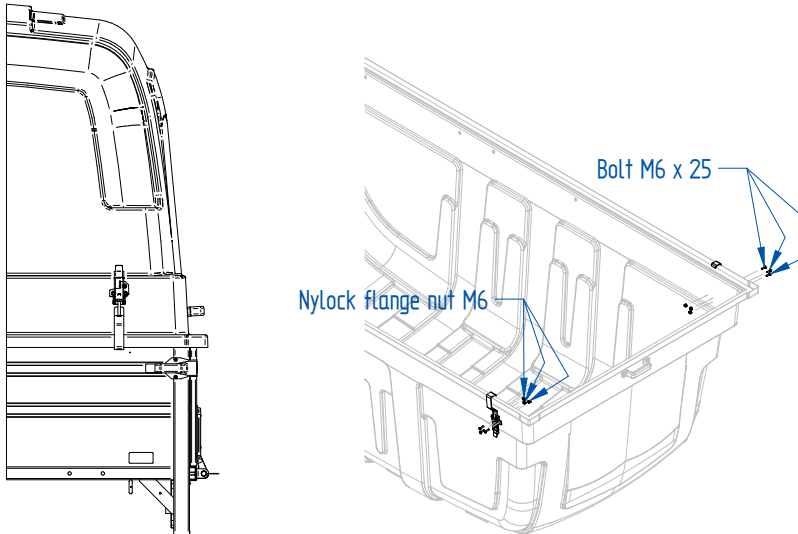

Figure 19
17. Place the hook latches to the back end of the trailer covers sides. Mark the mounting holes for the hook on the cover and drill them using a D7mm drill bit. Use M6x25 bolts and M6 Nylock flange nuts. **See figure 19.**